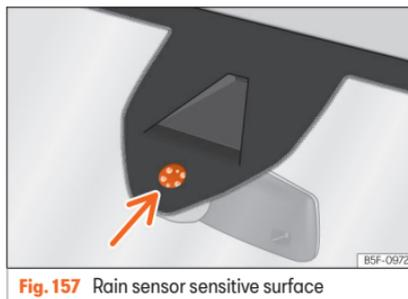

Fig. 157 Rain sensor sensitive surface
Possible causes of faults and mistaken readings on the sensitive surface **»** **Fig. 157** of the rain sensor include:
- Clean the sensitive surface of the rain sensor regularly and check the blades for damage »» Fig. 157 (arrow).